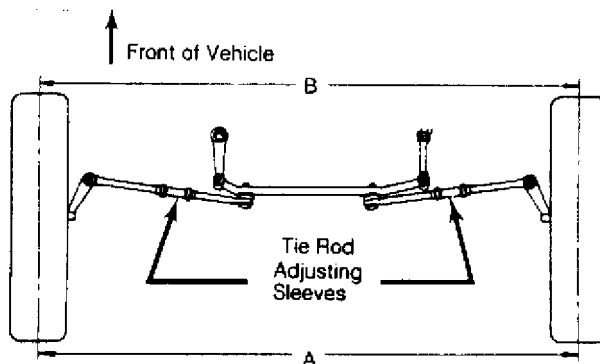

Fig. 2: Adjusting Tie Rod Sleeves (Top View)
- * Steering wheel must be centered with wheels in straight ahead position. If required, shorten one tie rod adjusting sleeve and lengthen opposite sleeve (equal amount of turns). See Fig. 2.
- 1) Measure toe-in with front wheels in straight ahead position and steering wheel centered. To adjust toe-in, loosen clamps and turn adjusting sleeve or adjustable end on right and left tie rods. See Figs. 2 and 5.